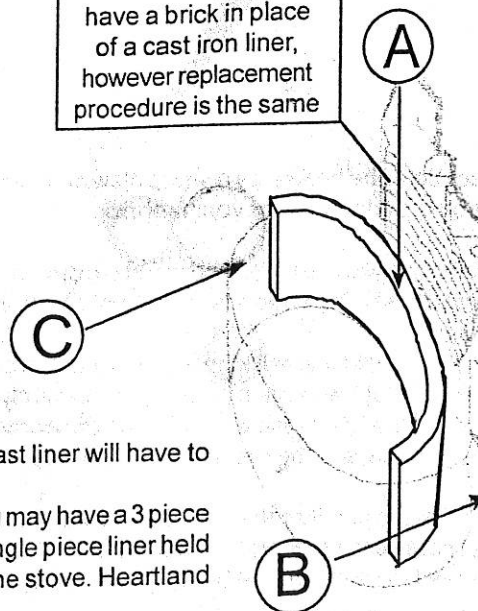

figure 2
4. To install the two piece replacement brick, (see figure 2)